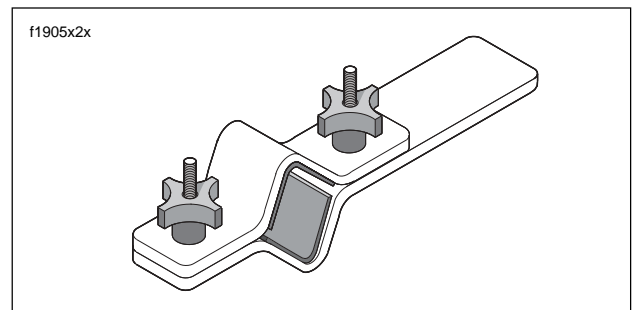

Figure 2-58. Fork Tube Holder (HD-41177)
2. See Figure 2-58. Clamp the FORK TUBE HOLDER TOOL (Part No. HD-41177) in a vise and install the upper front fork in the holding tool.